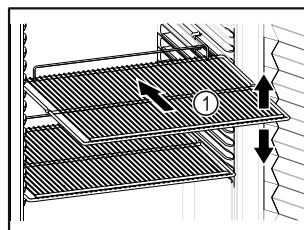

Fig. 63 Example illustration
- ❑ If storage surfaces Fig. 63 (1) are movable, adjust them according to height.